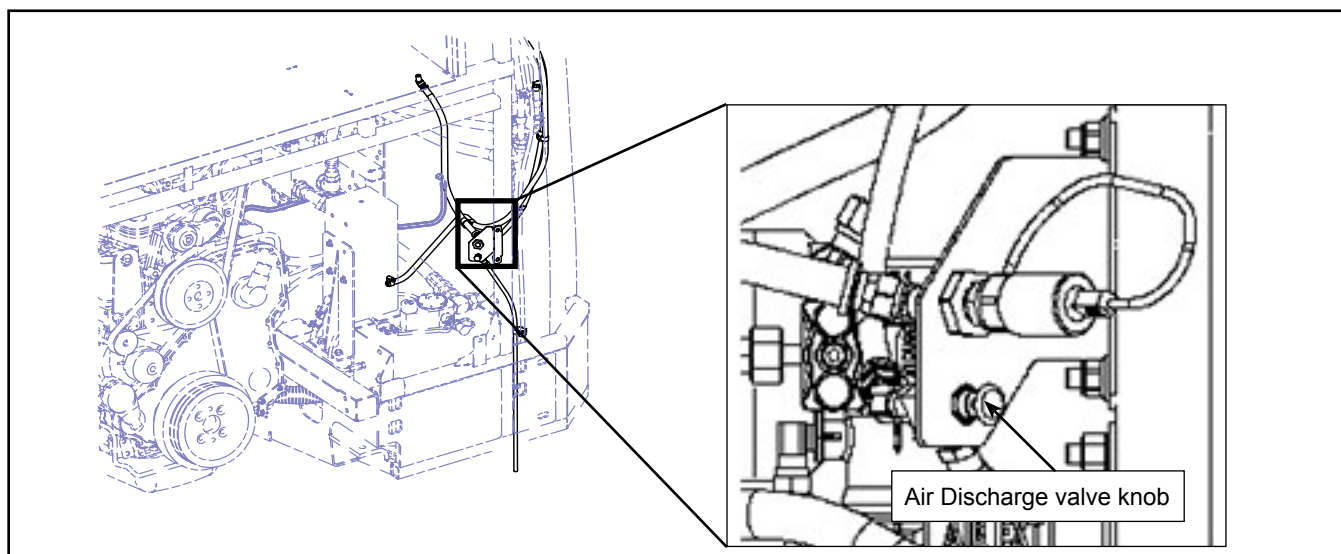

Figure 1 - Location of the Air Discharge Valve Knob in the Engine Compartment
- 1.1. Open the rear engine door and release pressure using the air discharge valve knob located on the coolant quick connect fitting bracket in the rear right portion of the engine compartment. See Figure 1.